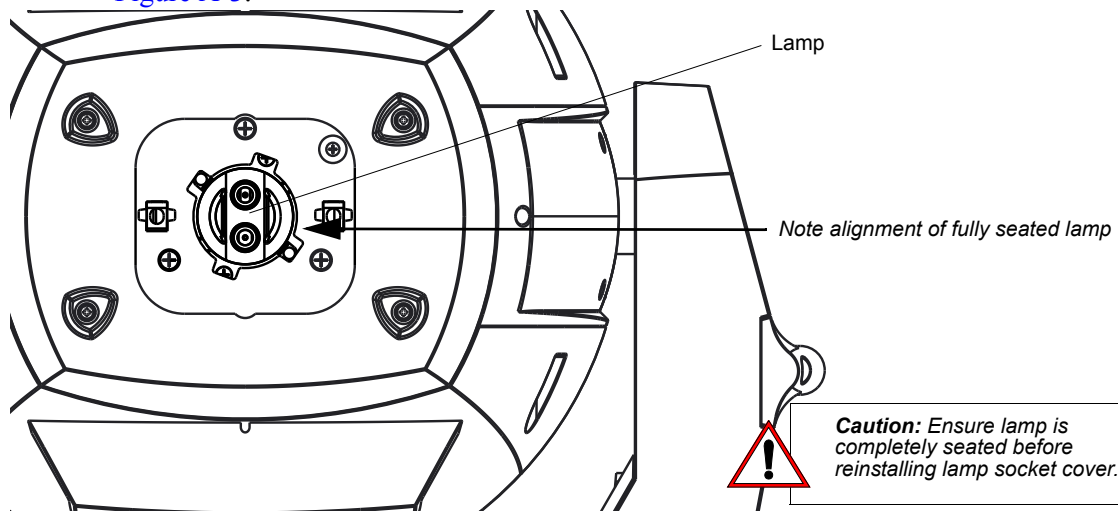

Figure A-3: Installed Lamp
- Step 9. Turn lamp clockwise to seat lamp into socket. Lamp base should be aligned as illustrated in Figure A-3.